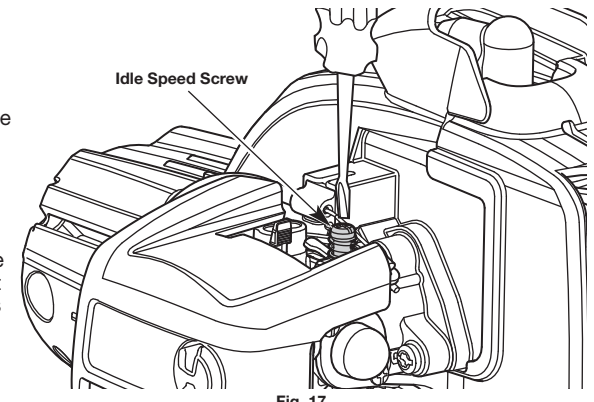

Fig. 17
The idle speed of the engine is adjustable. An idle adjustment screw is between the air filter cover and the engine starter housing (Fig. 17).
2. Release the throttle trigger and let the engine idle. If the engine stops, insert a small Phillips screwdriver into the idle adjustment screw (Fig. 17). Turn the idle speed screw **clockwise** 1/8 of a turn at a time (as needed) until the engine idles smoothly.